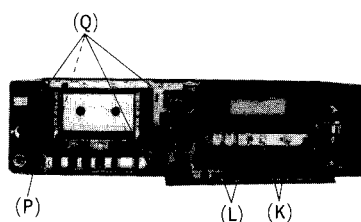

Fig. 5
C Erase head height adjustment Condition: * Playback mode Equipment: * Test tape (tape path viewer) ... QZZCRD	<p>Caution:</p> <ol style="list-style-type: none"> 1. Remove screws (D) and (E) to replace the erase head. (Do not remove nut (C) since it is designed for erase head height. Adjustment to maintain performance.) 2. After erase head replacement, check by playing test tape (QZZCRD) back to see that the tape travels properly. 3. For any tape travel performance problem, follow the procedure below for adjustment. <p>Adjustment</p> <ol style="list-style-type: none"> 1. Adjust nut (C) shown in fig. 5 so that the tape may not get curled or malformed by tape guide of the erase head. 2. After adjustment, lock nut (C) with lacquer.  <p style="text-align: center;">Fig. 5</p>